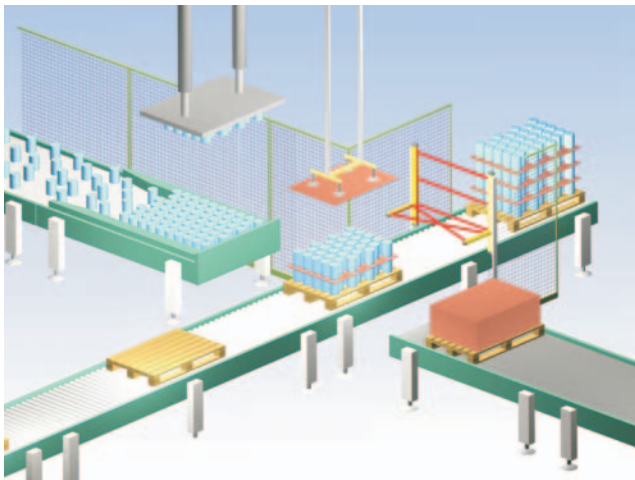

Figure 1
- (1) To permit the access of personnel inside the hazardous area during the non-hazardous portion of the equipment cycle ... for example, removal or repositioning of the work piece.
- (2) To permit the access of materials of production and prevent access by personnel ... for example, pallet entrance and/or exit from the hazardous area (see Figure 1).